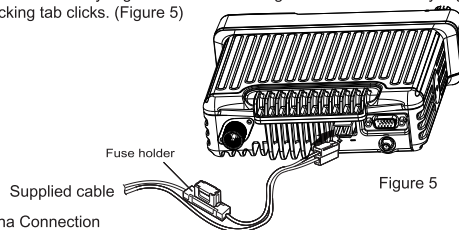

Figure 5
6. Connect the transceiver's power supply connector. Press the connectors firmly together until the locking tab connectors firmly together until the locking tab clicks. (Figure 5)